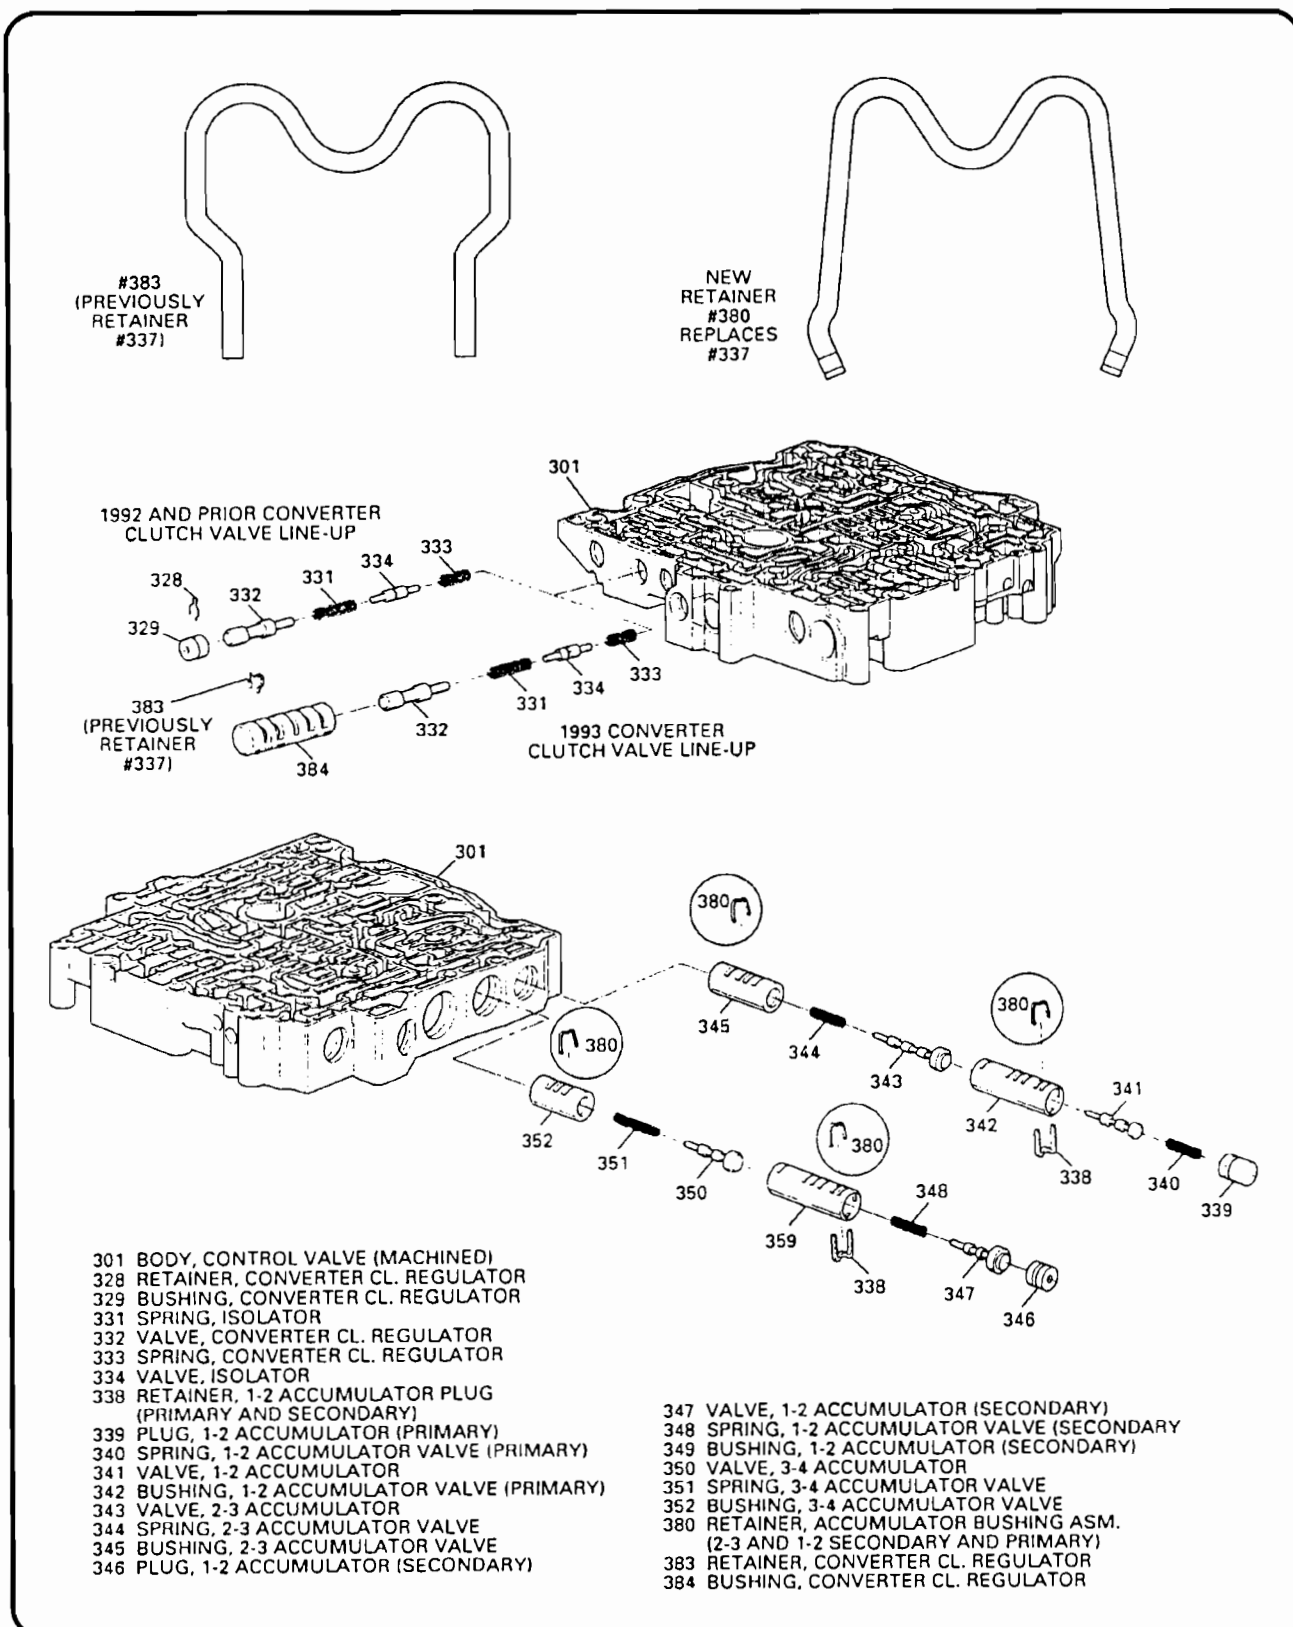

Figure 42
- (1) **VALVE BODY CASTING** - The aluminum plug and retainer clip for the converter clutch regulator valve were eliminated and replaced with a new bushing and a new style retainer. This makes it much easier to remove this line-up out of its valve body bore (See Figure 42).